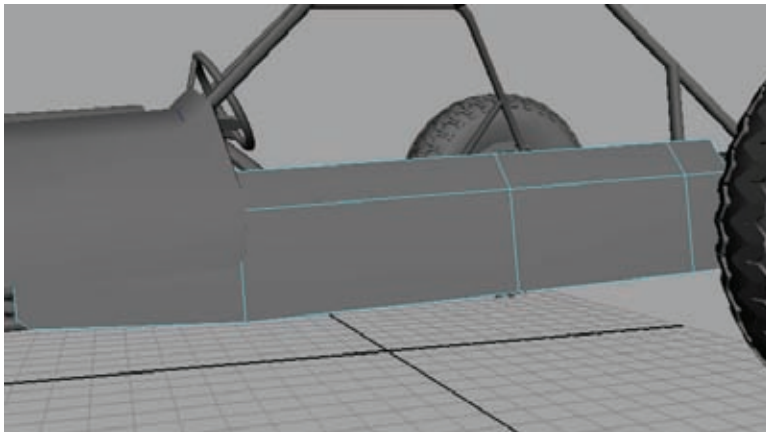

Figure 4.34
7. Grab the bottom forward-facing edge and bevel it. You should have something similar to Figure 4.34.